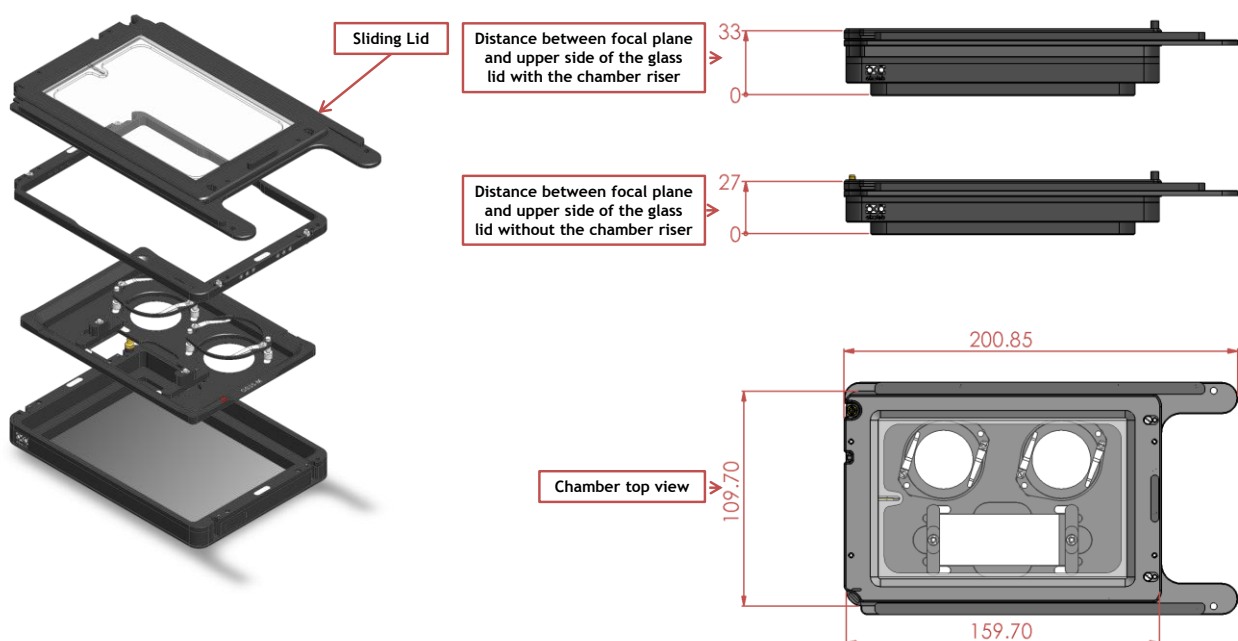
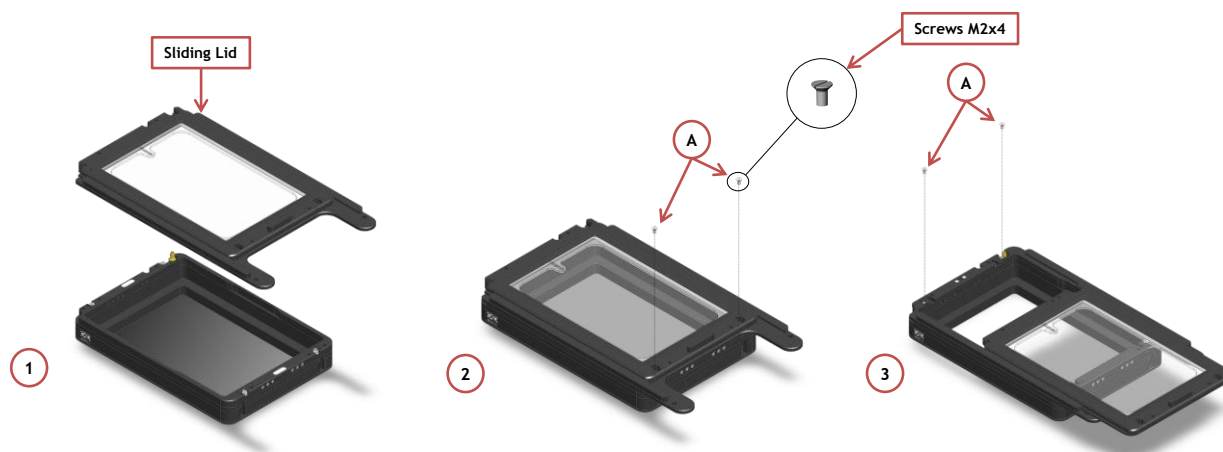

Figure 3. H301-NIKON-TI-S-ER (Sliding Lid comes as standard)
Figure 4. Assembly of the sliding lid
Figure 3 shows chamber dimensions with the Sliding Lid (with and without chamber riser). Figure 4 illustrates how to remove Sliding Lid, when a different Lid is necessary.
**NOTE: Sliding Lid MUST BE REMOVED when using any other Lid.** The Sliding Lid is fixed onto the chamber with 4 screws. Screws location is indicated by letter A in Figure 4 (image 2 and 3). Keep Sliding Lid fully closed to access screws labeled A in image 2. Open Sliding Lid to access screws labeled A in image 3.